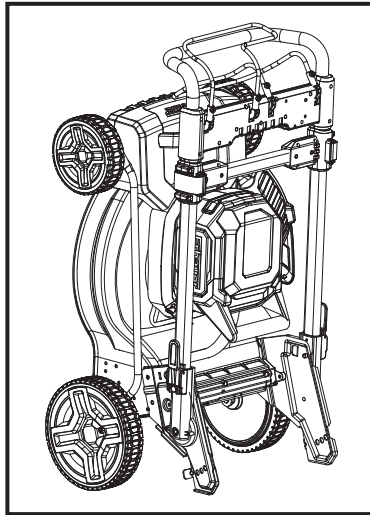

Fig. 24
1. Switch the product off and remove the battery pack (26) before storage.
3. Suggest folding the handle assembly and storing the product vertically to save space (Fig. 24).